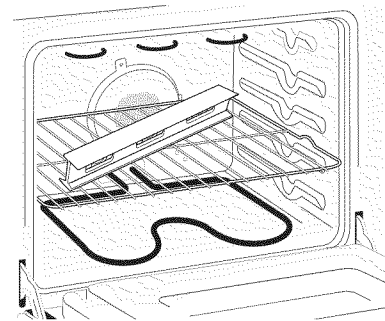
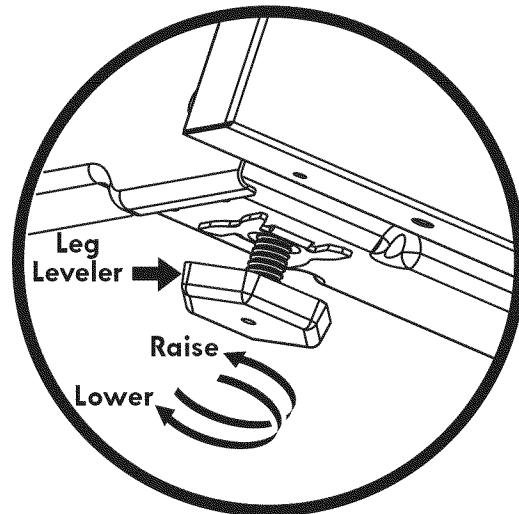

Figure 10
Figure 17
3. Check if the range is level by installing an oven rack in the center of the oven and placing a level on the rack (Figure 10).
2. Place a level on the rack (see Figure 10). Take 2 readings with the level placed diagonally in one direction and then the other. Level the range, if necessary, by adjusting the 4 leg levelers with a wrench (see Figure 17).